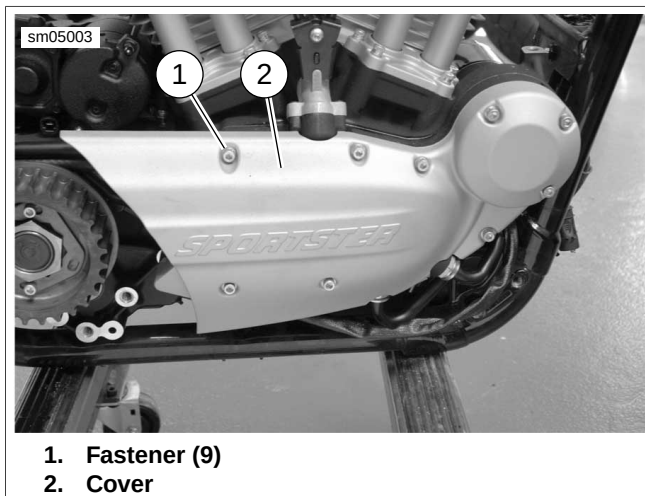

Figure 3-169. Oil Pump Cover: XR Models
3. See Figure 3-169. Remove nine fasteners (1) and remove gearcase and oil pump cover (2).